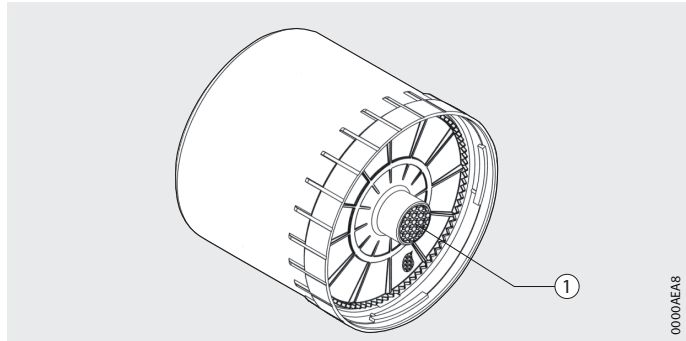

Figure 8
Push the LC unit into the cover until the grease escapes, *Figure 8* ①.
- ① Outlet opening